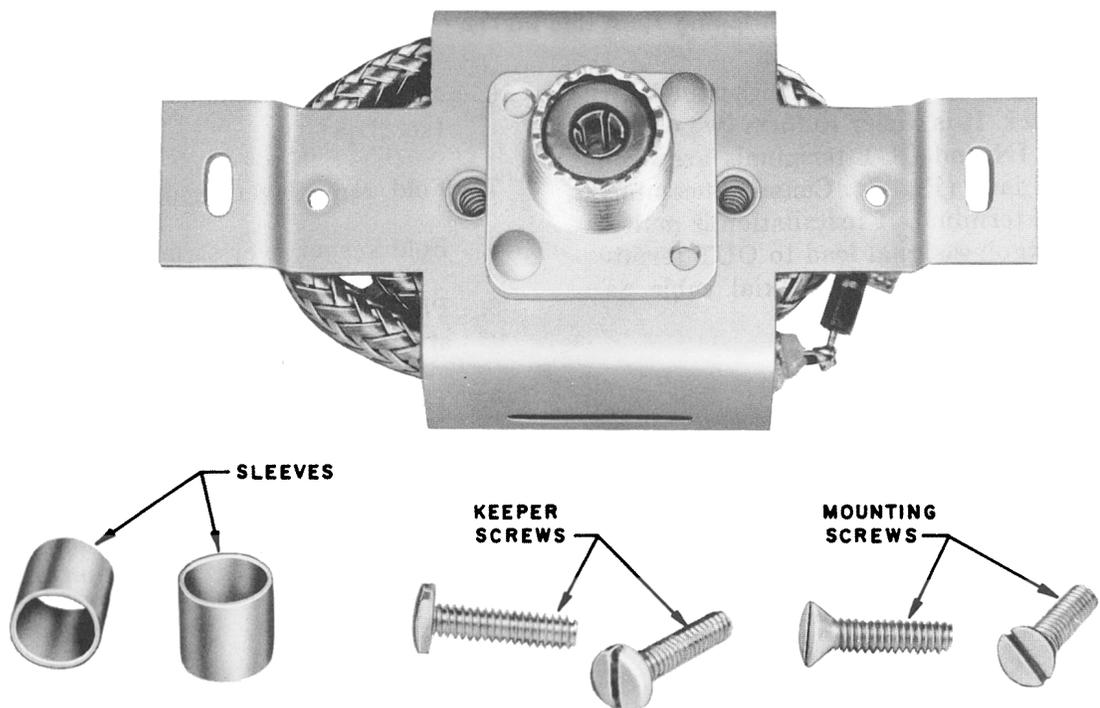

Fig. 1 — SKL 964-16U Coaxial Jack
2.01 The television jack is designated SKL 964-16U (Fig. 1).